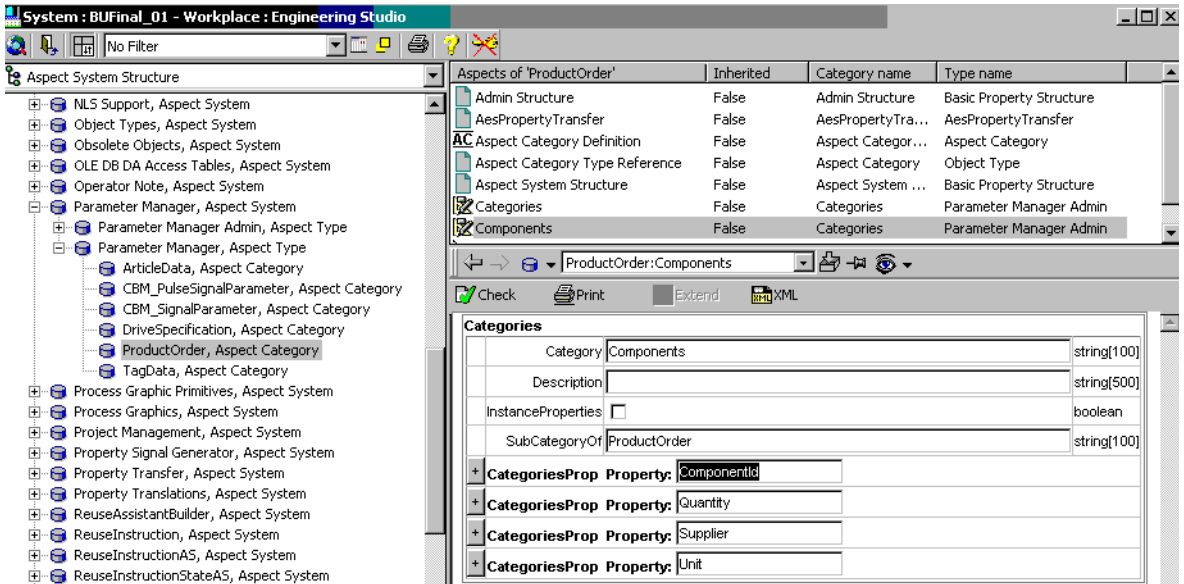

Figure 327. Properties of the Sub Category Components
- The sub category Components keeps the properties: “ComponentId”, “Supplier”, “Quantity” and “Unit” (see Figure 327).